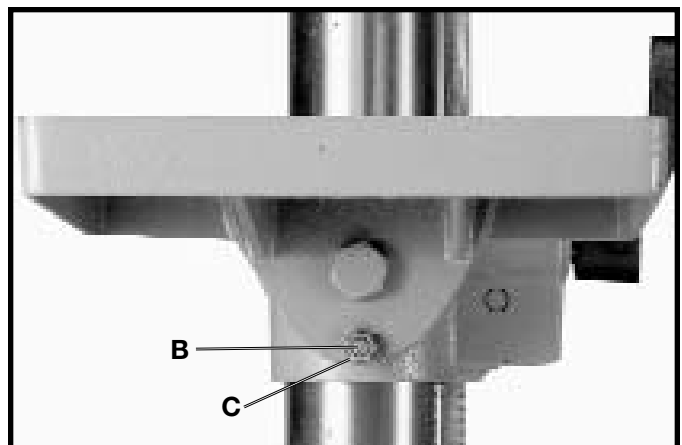

Fig. 21
2. The table can be tilted right or left by pulling out and removing table alignment pin (B) Fig. 21. **NOTE:** If pin (B) is difficult to remove, turn nut (C) clockwise to pull pin out of casting.